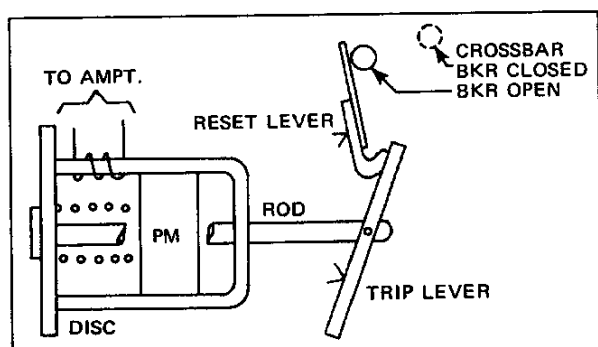

Figure 2
13. The actuator receives a tripping pulse from the Amptector and produces a mechanical force to trip the breaker. The actuator is made up of a permanent magnet, a disc held by the magnet, a rod acted on by a spring, a lever for tripping the breaker, and a lever for mechanically resetting the actuator. The magnet cannot pull and reset the disc against the force of the spring acting on the rod, but can overcome the spring force when the disc is in contact with the magnet. A tripping pulse from the Amptector counteracts the effect of the permanent magnet, allowing the spring to separate the disc from the magnet and move the rod to actuate the trip lever. The trip lever then moves the trip bar and trips the breaker. As the breaker opens, the cross bar strikes the spring finger attached to the reset lever; this furnishes the assistance required to move the disc so as to close the air gap between it and the permanent magnet against the spring force. The device is reset when the disc is in contact with the magnet. If the disc is not fully reset the trip lever will hold the breaker mechanism in the trip free condition and the breaker cannot be reclosed. Figure 2 shows a simplified sketch of the actuator.